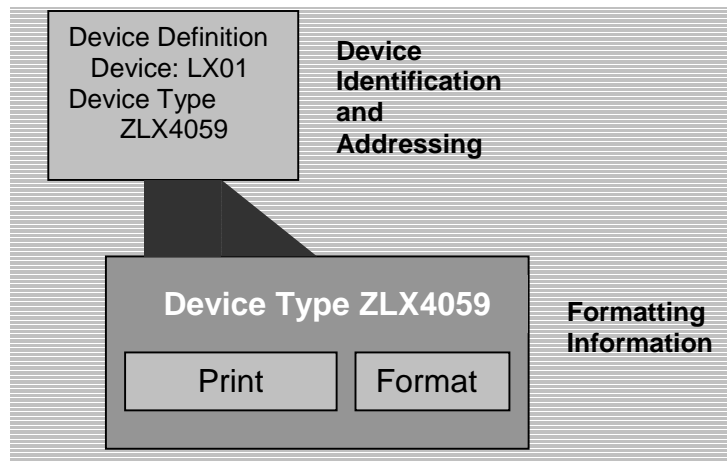

Figure 1.2 Device Description Overview
- Device Descriptions** As Figure 1.2 shows, the information that is needed to produce an output-ready data stream is held in a device description. This device description is stored in two R/3 spool objects, the **device definition** and the **device type**. Usually, R/3 device descriptions hold all of the information that is held in printer drivers in a host system. This device information is used to convert the document to be printed from the raw R/3 internal format of a spool request to a device-specific output-ready format. The device description to use for formatting is specified in the device name entry in the spool request. This device name points to a device definition and to a device type in the device management system.